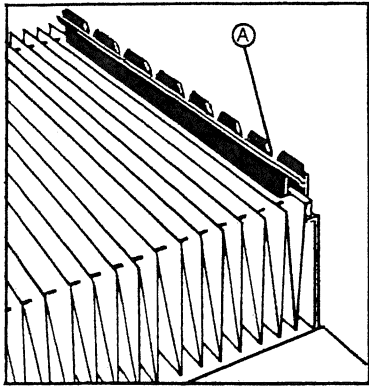

FIGURE 2
4. Note the position of the two black holding brackets (A), Figure 2, and remove.
8. Place holding brackets (A) (Figure 2) over the cardboard flaps of the media and position in the same manner as when removed in Step 4. Center the holding brackets with ends of housing.
9. Carefully install the eight pleat spacers (G) so that each spacer finger separates one media pleat. The ends of the pleat spacers align with notches and snap into slots of holding brackets. (See exploded view.)
10. Close end panels (C). Snap latches (H) in place by grasping latches with fingers and inside corners of holding brackets with thumbs and squeeze.